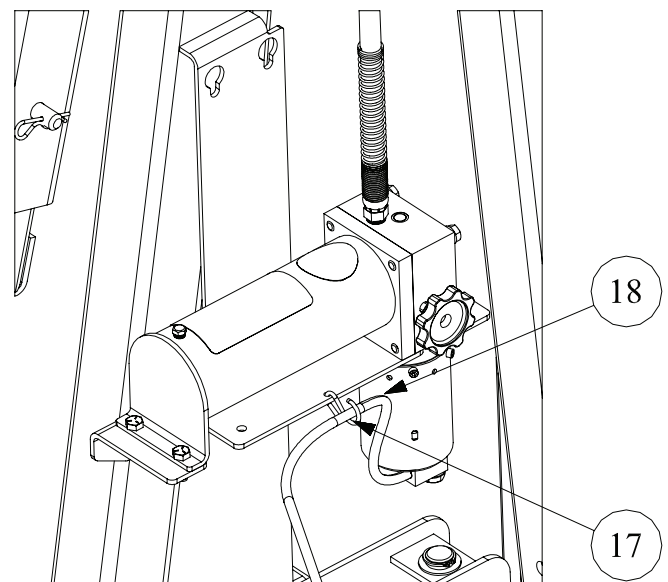

Figure 6
3. Attach the S-hook [#17] to the hole in the pump bracket [#11] as shown in Figure 6.